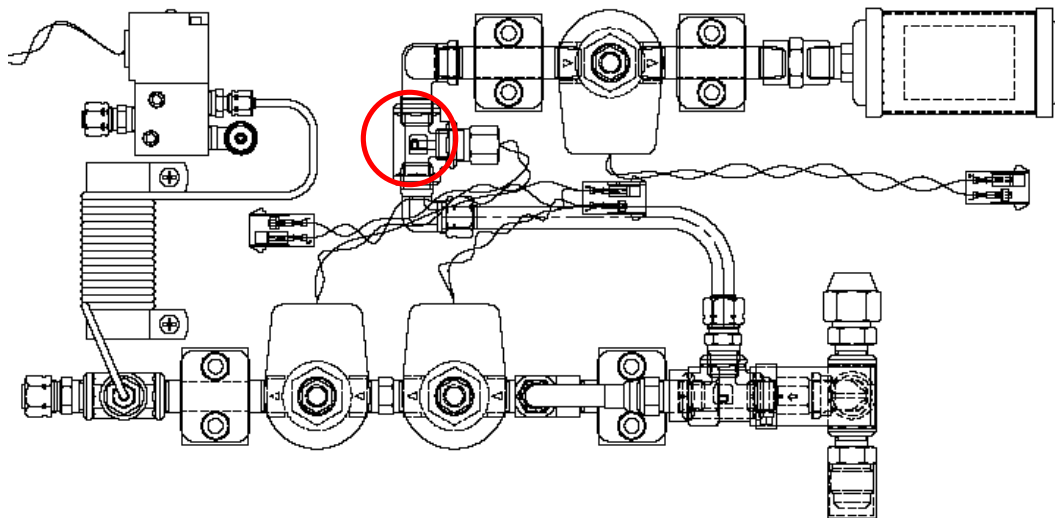

Figure 1: Plumbing assembly with Hot Gas Bypass Option. Bypass sensor is circled.
3. Locate the hot gas bypass sensor (see Figure 1).